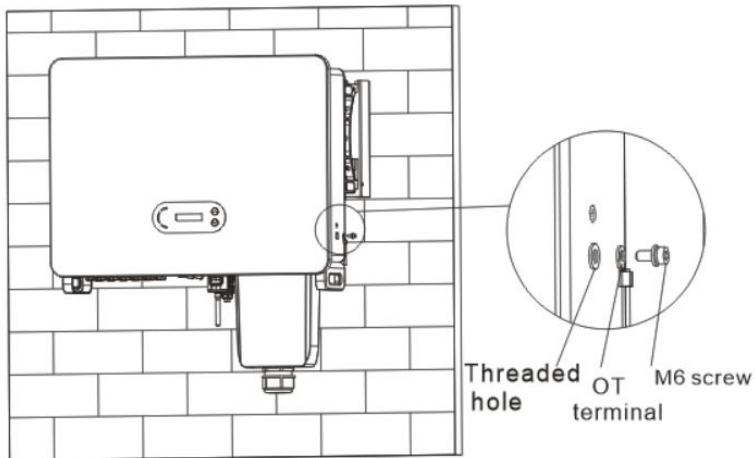

Figure 5-4 Inverter external grounding instruction diagram
**Step 2:** Select the appropriate cable diameter according to table 5-1, process the cable according to the following picture size requirements, and then pass through PG waterproof joint; The PE wire is connected to the grounding position of the container. External PE refer to Figure 5-4 Inverter external grounding instruction diagram.